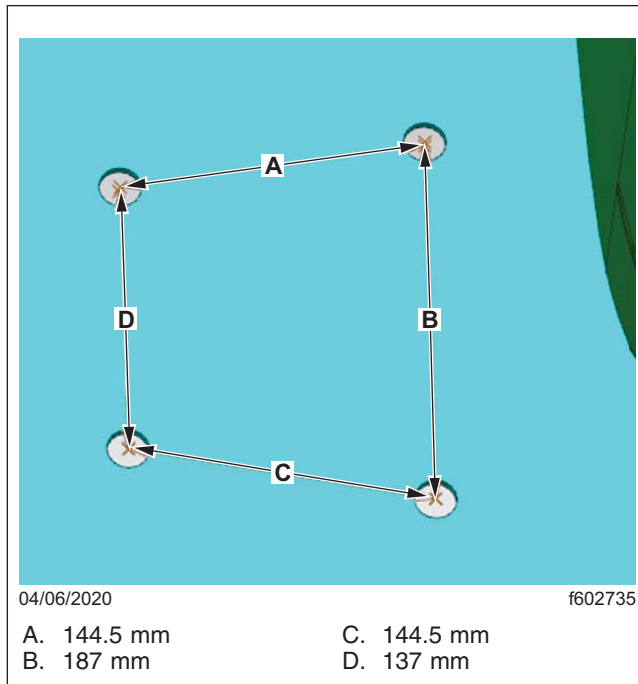
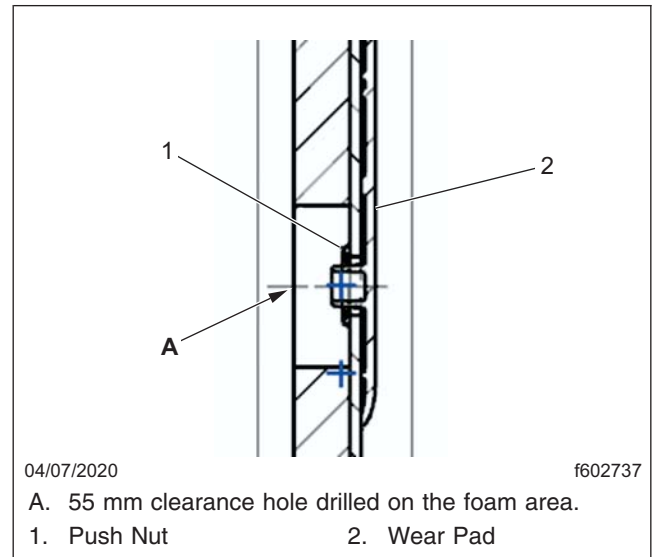

Fig. 4, Push Nut Hole Dimensions
Fig. 5, Cross Sectional View of Wear Pad Push Nut Fit into the Floor Mat Hole
- Drill four holes of 20 mm each through the marked points on the floor mat, and four holes of 55 mm each on the foam area at the backside of the marked points on floor mat as shown in Fig. 4 and Fig. 5.
5. Drill four holes of 55 mm each on the foam area at the backside of the floor mat. See Fig. 5 .